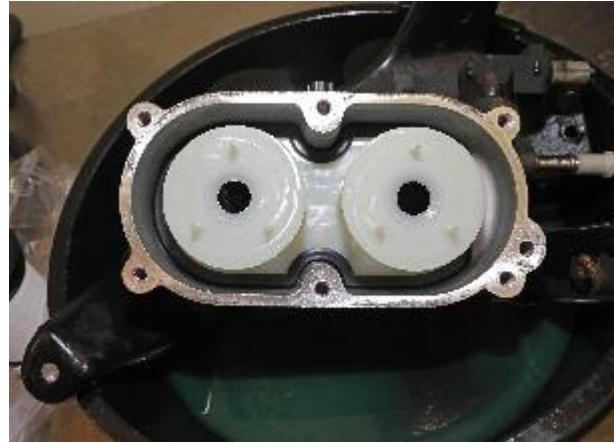

Figure 6 – Screen Installed
8. Install the **NEW** screen into the housing. Check that the screen is fully and evenly seating into the housing (Figure 6).